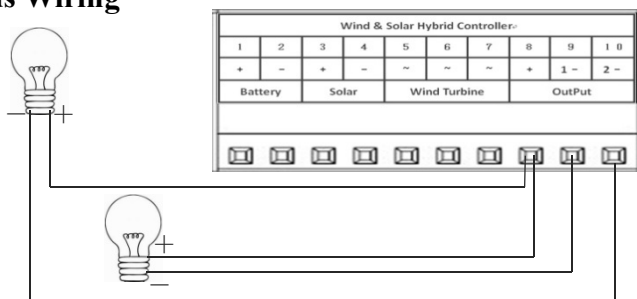

Figure2-5 Loads wiring
- ⚠ Connect loads positive(+) and negative(-) wires to controller as shown in figure2-5.